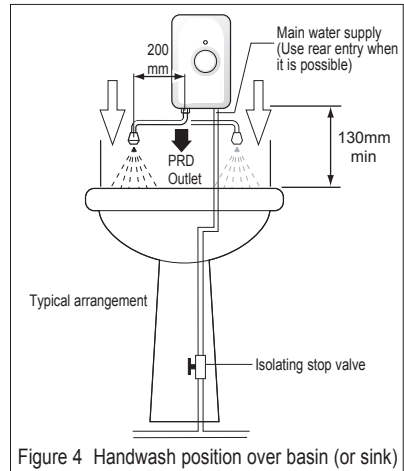

Figure 4 Handwash position over basin (or sink)
- 4.6 Position the unit above the basin so that the spray will be contained within the basin and at a convenient height for hand washing see Figure 4.
- 5.10 An isolating stopvalve **MUST** be incorporated to the main water supply to comply with Water Regulations - see Fig. 4.